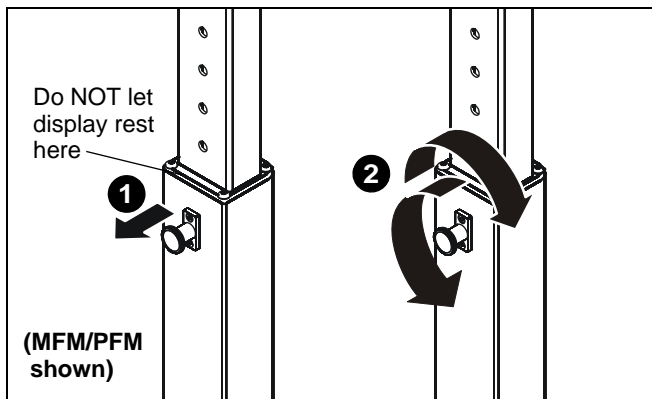

Figure 6
2. Raise or lower the center post, then turn the knob 90° either direction to engage the knob and lock the cart at desired height. (See Figure 6)
**IMPORTANT ! :** Set the height of the cart so the display does NOT rest on the lower part of the center post. (See Figure 6.) Always set the height so the knob is engaged in a hole in the center post.